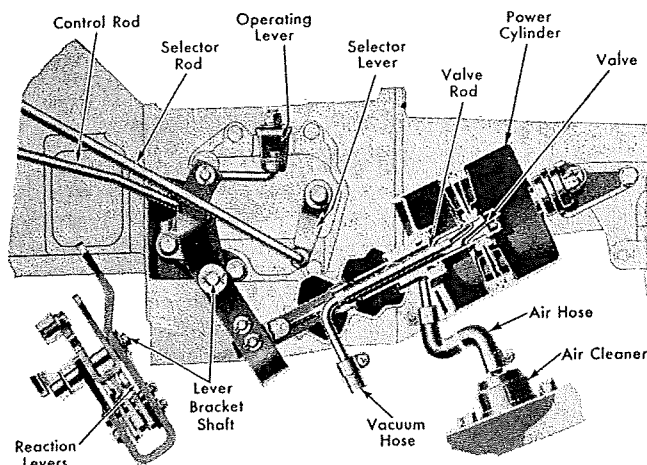

Fig. 23—Power Shift.
1941 VALVE ACTION, ADJUST: (See Fig. 23.) (1)—To adjust the vacuum cylinder valve, remove the boot and valve clevis pin. (2)—If the shift is sluggish into second or reverse, screw the clevis OUT on the valve rod. (3)—If sluggish into first or third, screw the clevis IN on the valve rod. NOTE—When making adjustments, screw the clevis $\frac{1}{2}$ turn at a time in the desired direction until proper valve action is obtained. This precaution is necessary to avoid the possibility of creating a sluggish valve action in the opposite speeds when trying to eliminate the condition in those speeds being adjusted.
1941 VALVE ACTION, ADJUST: (See Fig. 23.) (1)—To adjust the vacuum cylinder valve, remove the boot end valve clevis pin. (2)—If the shift is sluggish into second or reverse, screw the clevis OUT on the valve rod. (3)—If sluggish into first or third, screw the clevis IN on the valve rod. NOTE—When making adjustments, screw the clevis $\frac{1}{2}$ turn at a time in the desired direction until proper valve action is obtained. This precaution is necessary to avoid the possibility of creating a sluggish valve action in the opposite speeds when trying to eliminate the condition in those speeds being adjusted.
1941-42 VALVE ACTION, ADJUST: (See Fig. 23.) (1)—To adjust the vacuum cylinder valve, remove the boot and valve clevis pin. (2)—If the shift is sluggish into second or reverse, screw the clevis OUT on the valve rod. (3)—If sluggish into first or third, screw the clevis IN on the valve rod. NOTE—When making adjustments, screw the clevis $\frac{1}{2}$ turn at a time in the desired direction until proper valve action is obtained. This precaution is necessary to avoid the possibility of creating a sluggish valve action in the opposite speeds when trying to eliminate the condition in those speeds being adjusted.